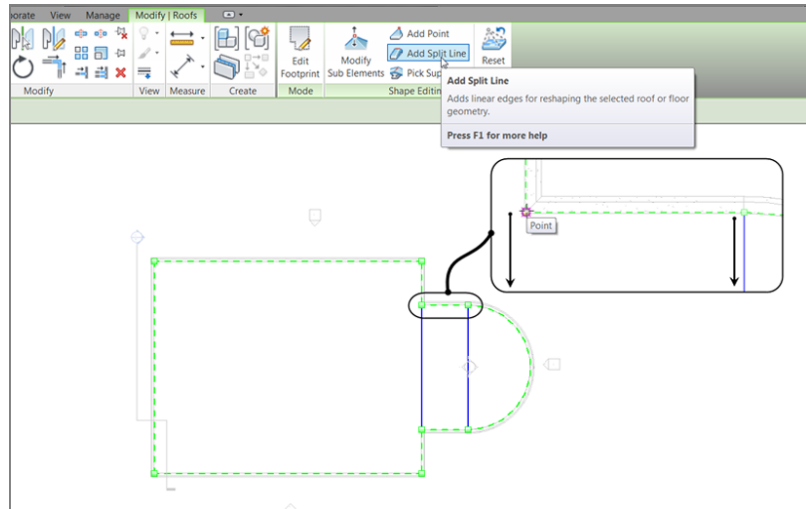

FIGURE 7.7: Start splitting the radial portion of the roof.
3. Click the Add Split Line button, as shown in Figure 7.7.
4. Draw lines from the points shown in Figure 7.7.